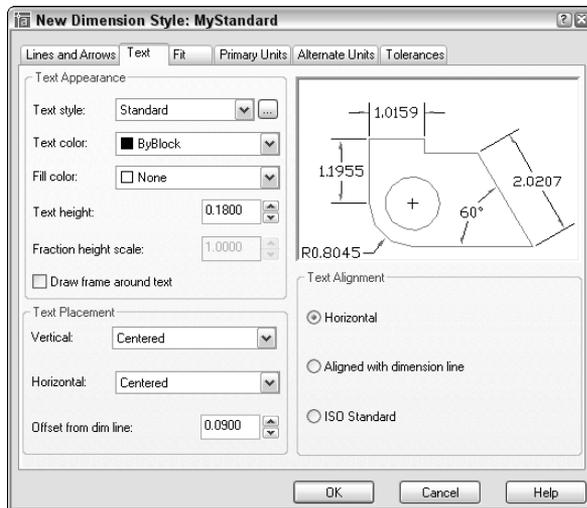

Figure 15-10: The Text tab of the New Dimension Style dialog box.
2. Save the file as `ab15-01.dwg` in your AutoCAD Bible folder. This drawing is an elevation of a garage, as shown in Figure 15-10. ORTHO and OSNAP should be on. Set running object snaps for endpoint and intersection. The Dim layer is current. If the Dimension toolbar is not visible, right-click any toolbar and choose Dimension.
You can format the text of the dimension for readability and to match other text in your drawing. In the New Dimension Style dialog box, the Text tab, shown in Figure 15-10, controls text appearance, placement, and alignment.